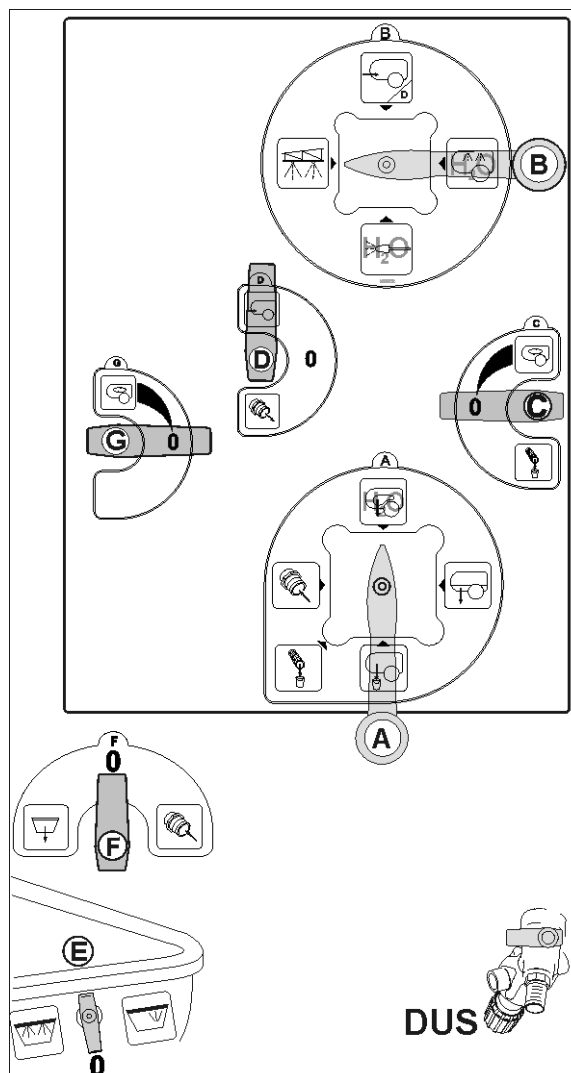
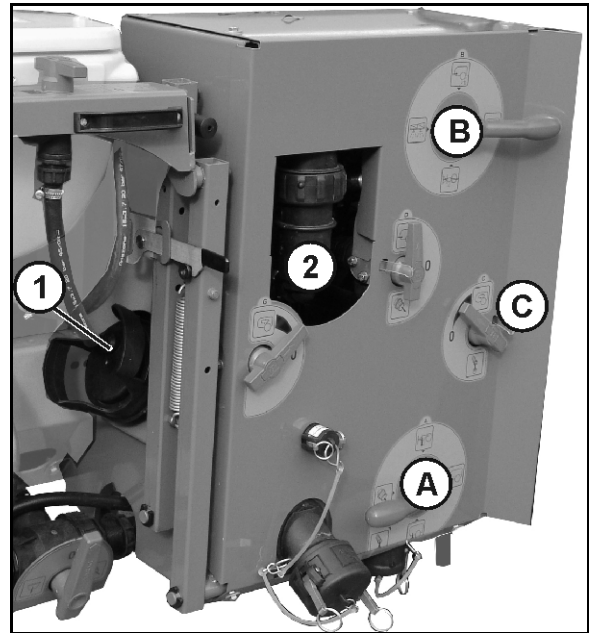

Fig. 139
Fig. 140
2. Remove and clean the suction filter (Fig. 139/1); see Seite 186.
- 5.1 Drain the pressure filter (Fig. 139/2) via tap **C**.
- 5.2 Unscrew the agitator hose (Fig. 140/4) (which comes out of tap **C**) from the spray liquid tank.
6. Unscrew the supply hose (Fig. 140/1) from the control valve. The supply hose connects the VARIO switch tap on the pressure side (Fig. 139/**B**) with the suction chest.
7. Unscrew the return hose (Fig. 140/2) for the part width section valve from the VARIO switch tap on the suction side (Fig. 139/**A**).
9. Remove the internal cleaning hose (Fig. 140/3) for the VARIO switch tap on the pressure side (Fig. 139/**B**).
11. Also remove the external cleaning hose even if there is no external cleaning (Fig. 140/5).
15. Move the VARIO switch tap on the suction side (Fig. 139/**A**) and the VARIO switch tap on the pressure side (Fig. 139/**B**) several times between all their switch positions.